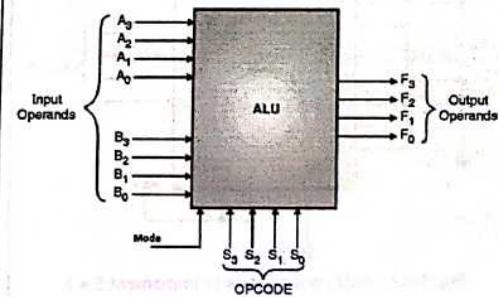

Fig. 1.2.5 : An ALU (Arithmetic logic unit)
- It consists of two inputs operands (4 bits in case of the ALU in Fig. 1.2.5) 'A' and 'B' and one output operand i.e. 'F'. 'S' are the select lines to select the operation (OPCODE). Besides these, there is also an input called as mode select for selecting Arithmetic or Logical operations.